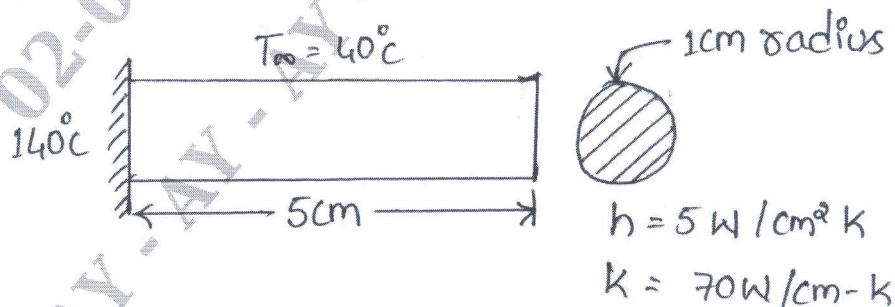

Fig. Q9 (b)
b. Find the distribution in the 1D fin shown in Fig. Q9 (b). Take two elements for FE idealization.